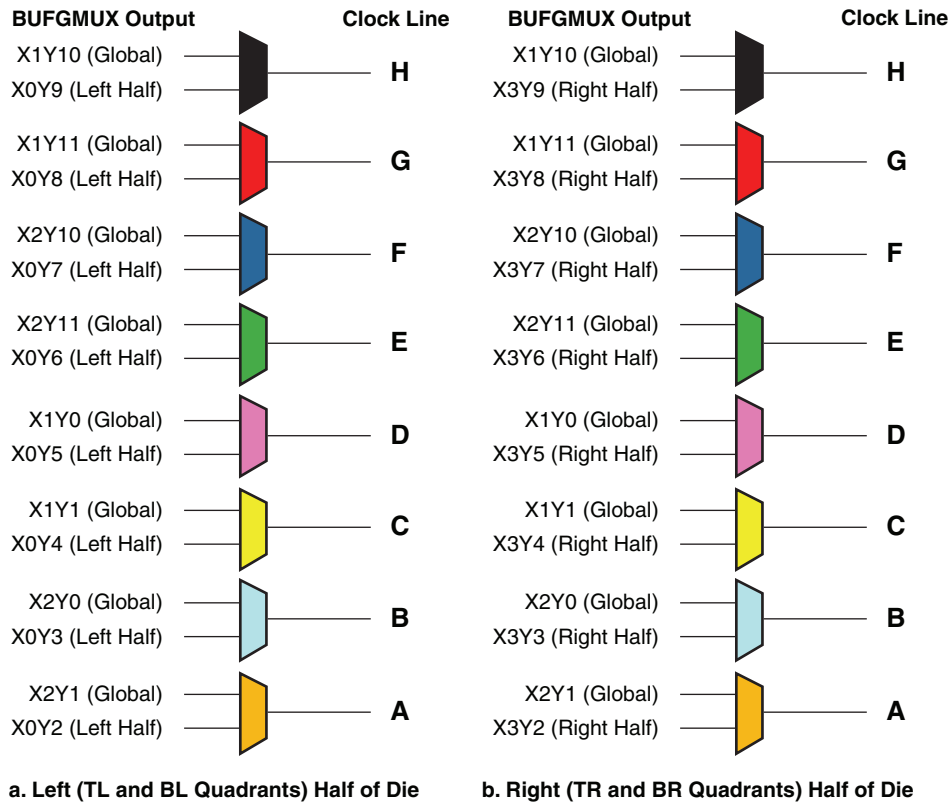

Figure 2-12: Spartan-3E/3A/3AN/3A DSP Clock Sources for the Eight Clock Lines within a Clock Quadrant
2. See Figure 2-2 for specific BUFGMUX locations, and Figure 2-12 for information on how BUFGMUX elements drive onto a specific clock line within a quadrant.
The clock routing within the Spartan-3E/3A/3AN/3A DSP FPGA is quadrant-based, as shown in Figure 2-2, page 45. Each clock quadrant supports eight total clock signals, labeled A through H in Table 2-7 and Figure 2-12. The clock source for an individual clock line originates either from a global BUFGMUX element along the top and bottom edges or from a BUFGMUX element along the associated left/right edge, as shown in Figure 2-12. The clock lines feed the synchronous resource elements (CLBs, IOBs, block RAM, multipliers, and DCMs) within the quadrant. Those resources have programmable polarity on the clock input.
Each of the eight clock signals in a clock quadrant derives either from a global clock signal or a half clock signal. In other words, there are up to 24 total potential clock inputs to the FPGA, eight of which can connect to clocked elements in a single clock quadrant. Figure 2-12 shows how the clock lines in each quadrant are selected from associated BUFGMUX sources. For example, if quadrant clock A in the bottom left (BL) quadrant originates from BUFGMUX_X2Y1, then the clock signal from BUFGMUX_X0Y2 is unavailable in the bottom left quadrant. However, the top left (TL) quadrant clock A can still solely use the output from either BUFGMUX_X2Y1 or BUFGMUX_X0Y2 as the source.